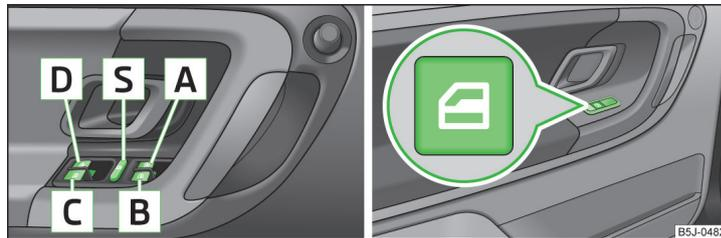

Fig. 38 Buttons on the driver's door/in the rear doors
- Deactivating the electrically operated power windows in the rear doors is recommended (safety push button) **S** when children are being transported in the rear seats » Fig. 38 on page 56.
- After switching the ignition off, it is still possible to open or close the windows for approx. 10 minutes. After the driver's or front passenger's door has been opened, the windows can only be operated by using button **A** » Fig. 38 on page 56.
Power window buttons » Fig. 38
The buttons for power windows in the rear doors can be deactivated by pressing the safety switch  » Fig. 38. The buttons for the electrical power windows in rear doors are activated again by pressing the safety pushbutton  again.
- Hold button  » Fig. 38 on page 56 in the opening position.
- Hold button  » Fig. 38 on page 56 in the closing position.